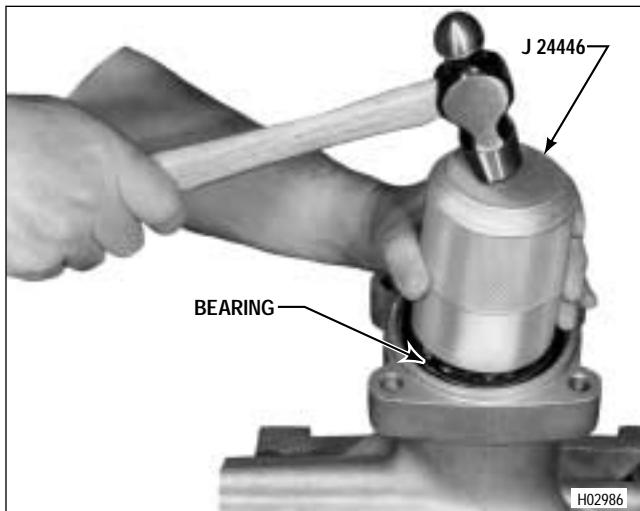

Figure 7-15. Installing Rear Output Shaft Bearing
(7) Using bearing installer tool J 24446, install rear bearing 4 (Foldout 12,B) numbered side out, as shown in Figure 7-15. Install beveled snapring 5 (Foldout 9,B), flat side down.